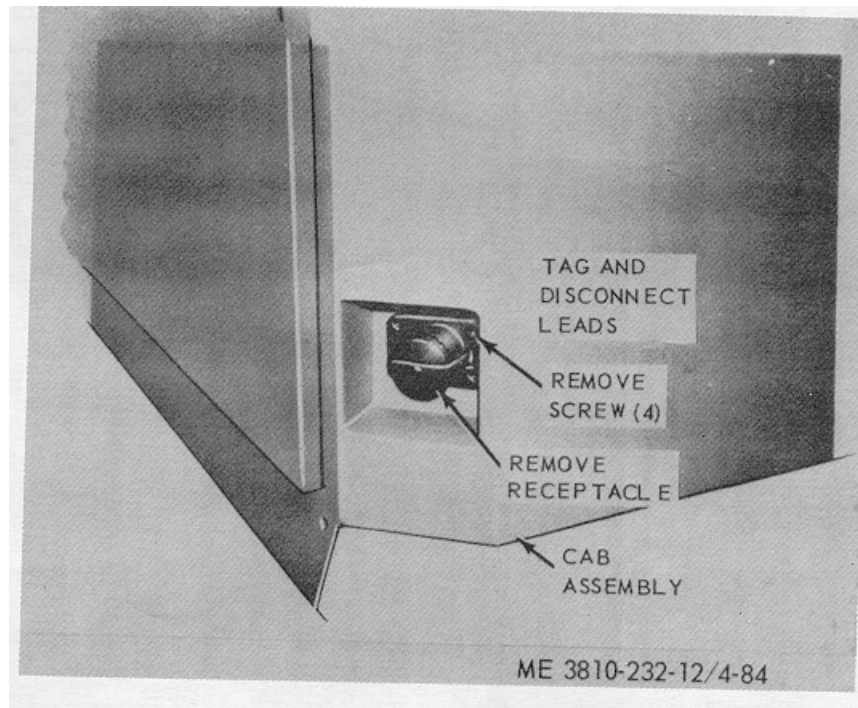

Figure 4-84. Crane slave receptacle, removal and installation.
a, *removal* Remove slave receptacle as illustrated in figure 4-84.
(1) Clean receptacle with a cloth dampened with an approved cleaning solvent.
(3) Replace defective or damaged unit.
c. *Installation* Install receptacle as illustrated in figure 4-84.